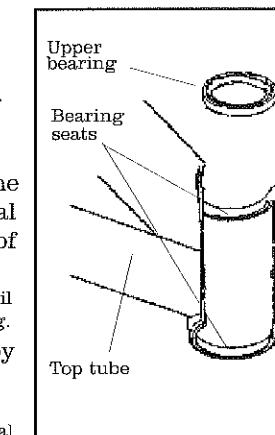

Fig. 16
2. Use a sharp knife to scrape off any residual adhesive from the bearing seat surfaces (Fig. 16). Be careful not to scrape off any aluminum or mar the surfaces in any way.